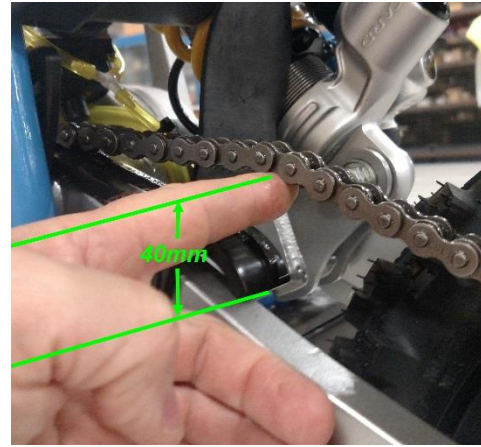

Figure 2
2. A properly adjusted chain will have 40mm (1 1/2") free movement behind the chain block with no load on the bike. (figure 2)